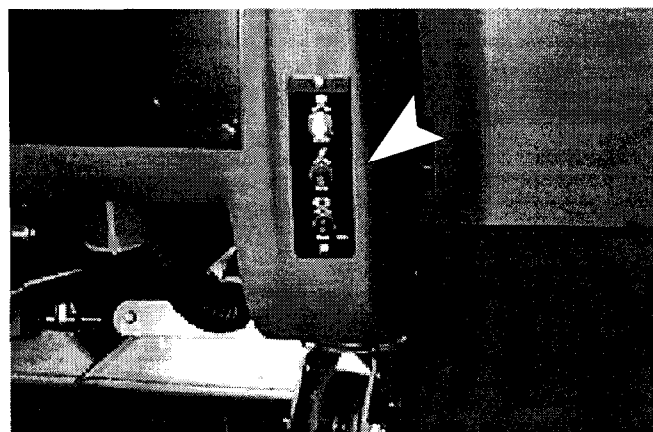

FIG. 15.
This machine is equipped with (3) resettable circuit breakers to protect machine from damage, (labeled as BRUSH, MAIN and DRIVE). They are designed to stop current flow when circuit overload occurs. Once a circuit breaker has tripped, determine problem, let motor cool down and manually reset breaker by pressing in circuit breaker button. The vacuum motors are thermally protected and will automatically shut-off when an overload occurs. The MAIN and DRIVE circuit breakers are designed so you can stop current flow by manually pulling out circuit breaker buttons. Circuit breaker buttons are located at rear of machine as shown. (Figure 15)